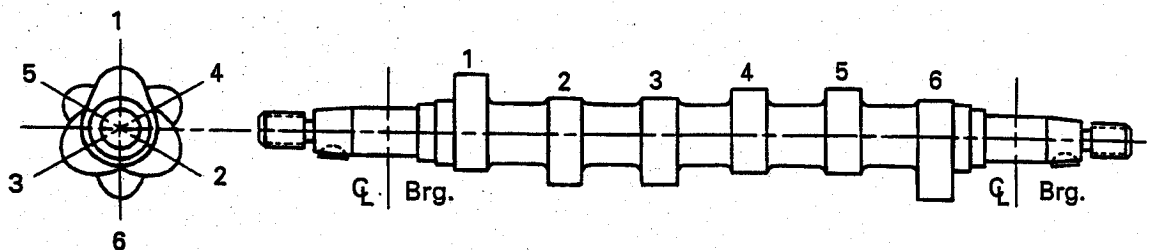

Figure 4b
- (b) The steel camshaft of Figure 4b for a fuel injection pump has a distance between bearing centres of 266 mm, divided into seven equal spaces by the centre lines of the six cams. The lift is 9.2 mm, the plunger diameter is 13 mm and the maximum injection pressure is 55 MPa. Assume that the resulting force acts on only one cam at a time. Ignoring the stiffening effect of the cams, determine the shaft diameter required to limit the deflection at any cam to 0.25 mm. $E = 207$ GPa and the second moment of area of a circular shaft is $\pi d^4/64$, where d is the shaft diameter. Determine the maximum stress in the shaft.